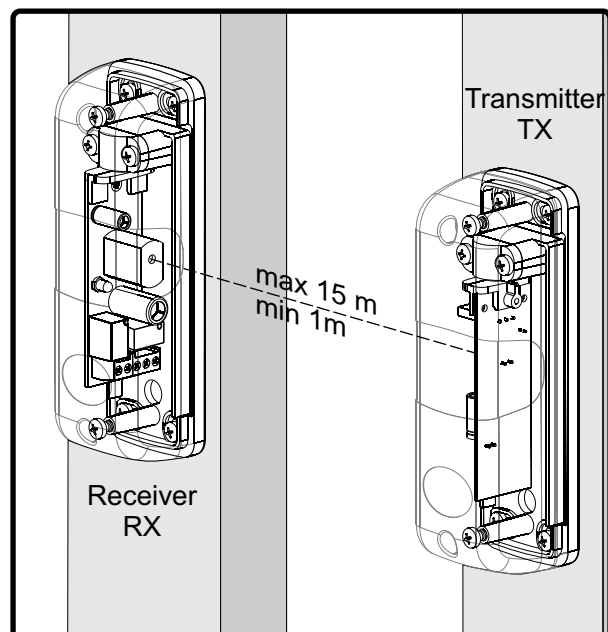

Fig.1. Exemplary receiver - transmitter location
Photocell includes transmitter and receiver (fig.1). The transmitter emit a coded Infrared (IR) signal invisible to the naked eye. Obstacle appearance (e.g. car) on photocell working area produces a detection signal on receiver output. Receiver has NC and NO type output contacts, the circuit is protected by additional relay. Photocell is destined to work in gate automation system as external element.